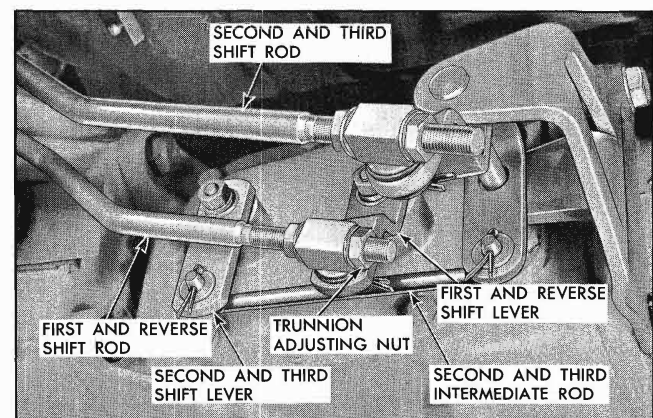

Fig. 7A-22 Proper Assembly of Shift Rods to Shift Levers
6. Connect shifter rods to shifter levers (Fig. 7A-22).